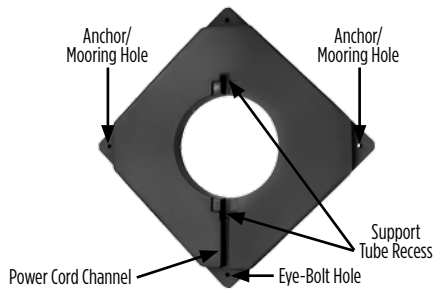

**Figure 1**
- i. Cut two lengths of 1/4" polyethylene rope. If anchoring to the pond bottom, allow for approximately 3 ft of rope for every foot of water depth (Figure 1). If mooring to the shore, allow for enough rope to reach from the intended float location on the pond surface to a secure mooring location on the shore.
- ii. A minimum of two anchoring/mooring ropes should be used, tied to two opposing corners of the float (Figure 3). Insert one rope end into one of the anchoring/mooring holes of the float and tie securely. Do the same on the diagonally opposite corner. Only two opposing corners are needed to secure most applications (Figure 1). However, if your application encounters strong windy conditions, anchoring/mooring three or more float corners can reduce drifting of the unit during these conditions.
- i. If anchoring the float to the pond bottom, lower one anchor block to the pond bottom, position the float where desired and lower the other anchor block to the pond bottom, each oriented so that the ropes are at an angle to the float (Figure 1).